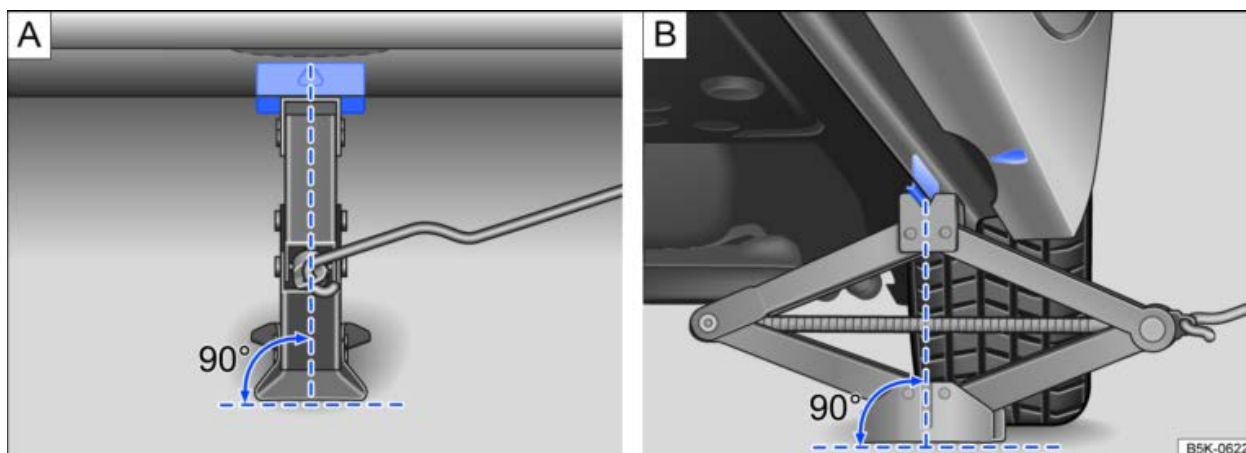

Fig. 2 Jack is positioned on the left side of the vehicle at the rear.
- Make sure the entire base of the jack is seated securely on the ground and that the base of the jack is located perpendicularly and directly below the jacking point → *fig. 2* **A** and **B**.
- Straighten out the vehicle jack and continue raising the bracket on the top of the jack until the bracket is positioned on the brace under the vehicle → *fig. 2*.
- Only place the vehicle jack at the locations described. The bracket of the jack must firmly grip the vehicle lift point below the vehicle → *fig. 2*.